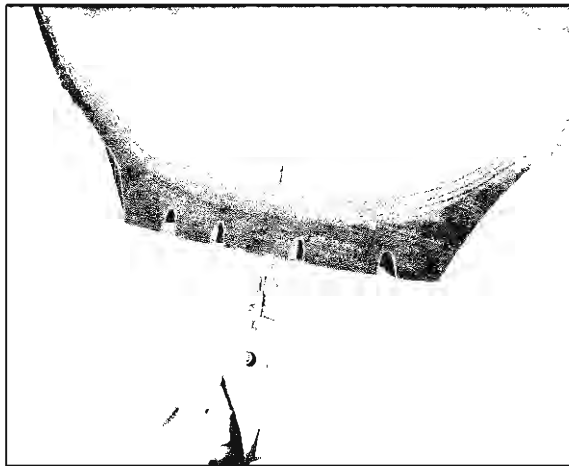

Fig. 15—Installing Filler Rubber in Hole
- b. Remove detachable handle from awl needle. Cut 1/8" by 1" strip of Filler Rubber, remove protective cover and insert into hole of awl needle with end of rubber strip extending beyond the needle (See Figure 15).